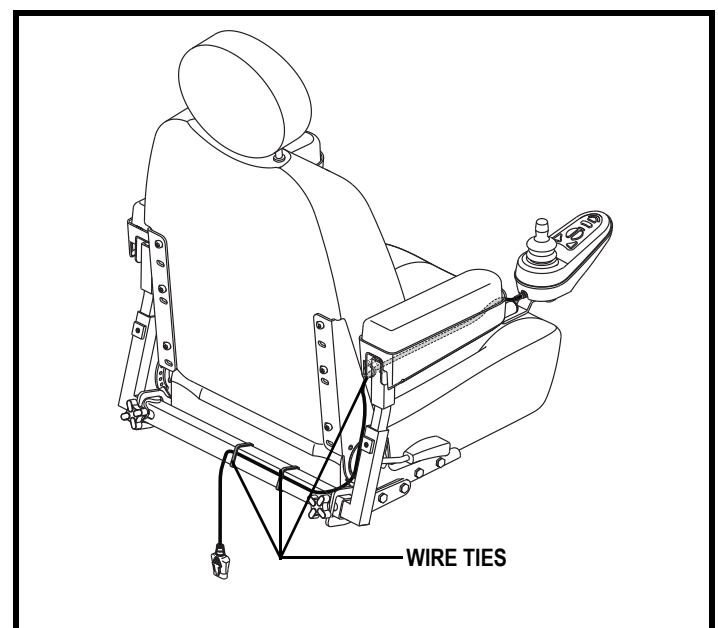

Figure 12. Controller Harness Routing
7. Secure the controller harness to the armrest receiver with one or more wire ties. See figure 12.
17. Secure the controller harness with one or more wire ties. See figure 12.
9. Secure the controller harness with one or more wire ties. See figure 12.